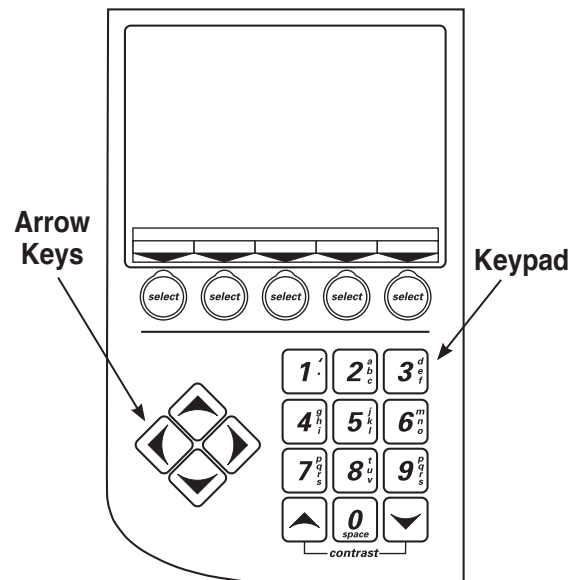

Figure 3
1. Use the **UP** or **DOWN** arrow key to toggle through the choices. Refer to Figure 3.